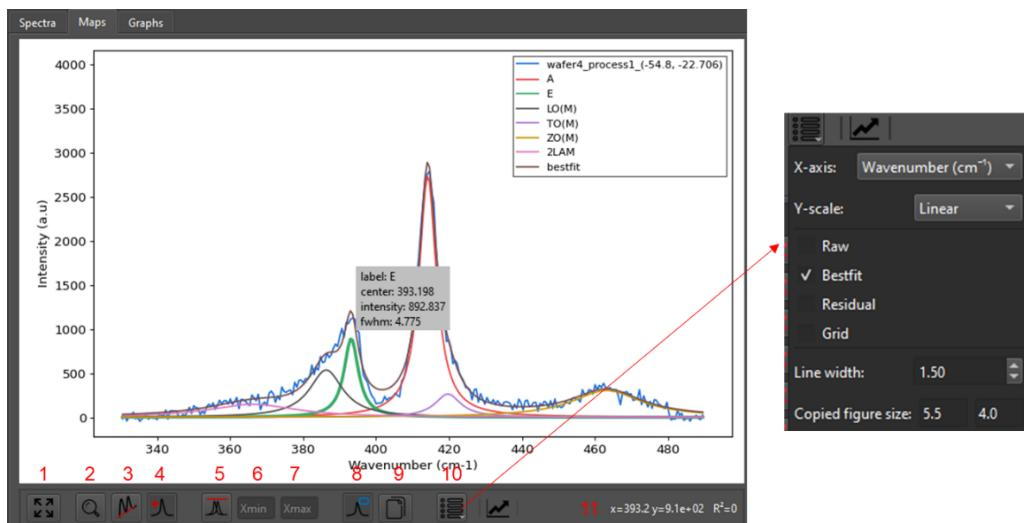

Figure 6: Spectra Viewer (left) widget and View Options Menu (right).
- **Show Peak Parameters** on the spectra plot: by hovering the mouse cursor over a peak displays a pop-up with the peak parameters (peak label, intensity, FWHM, position), as shown in Figure 6.